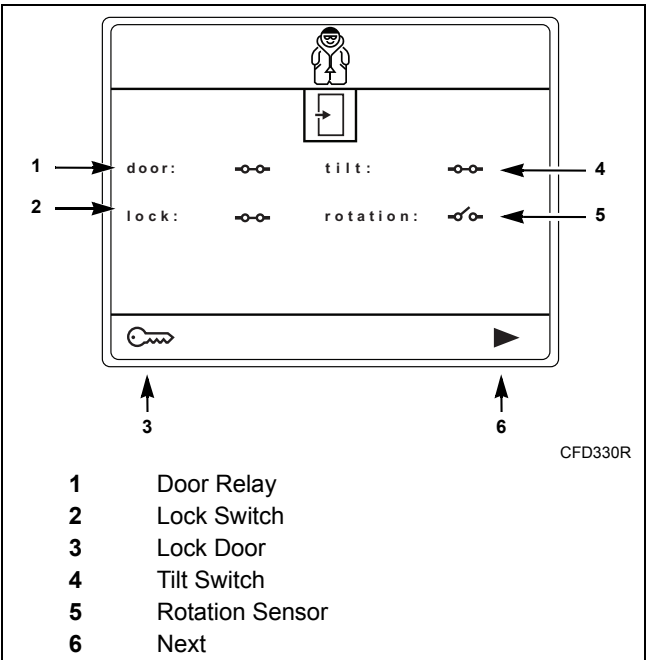

Figure 25
1. **Door closed input:** while observing the Door Relay display (refer to *Figure 25*), open and close the machine's door. The Door Relay display should change from close to open as the door is opened and from open to close as the door is closed.
**Door lock input:** close the machine's door. While observing the Lock Switch display (refer to *Figure 25*), press the keypad below the Door Lock icon (refer to *Figure 25*), to lock and unlock the door. The Lock Switch display should change from open to close as the door is locked and close to open as the door is unlocked.
**Tilt input:** while observing the Tilt Switch display (refer to *Figure 25*), manually move the tilt switch. The Tilt Switch display should change from close to open as the tilt switch comes into contact with the cutout in the tilt switch bracket.
2. **Rotation input:** open the machine's door. While observing the Rotation Sensor display (refer to *Figure 25*), manually rotate the machine's basket. The Rotation Sensor display should change from open to close as the basket is rotated and the RPM sensor detects a pulley spoke.